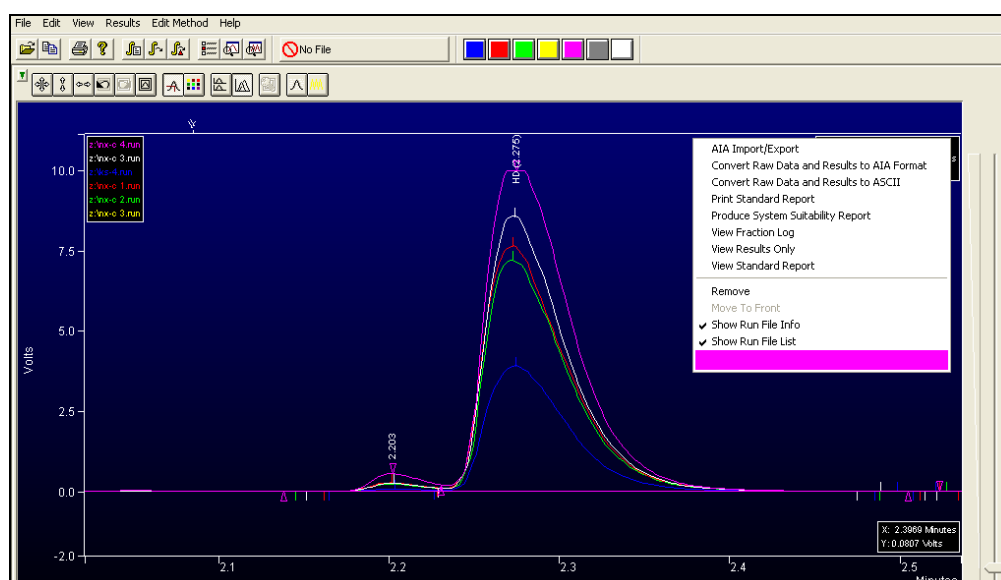

Figure 12: Chromatogram Window
- 6) A blue screen revealing chromatograms should appear (see figure 12).
- 10) To view information about the sample right click on the spectrum of interest (see figure 12). The coloured bar at the bottom of the list (pink) indicates that it is showing information about the pink chromatogram.